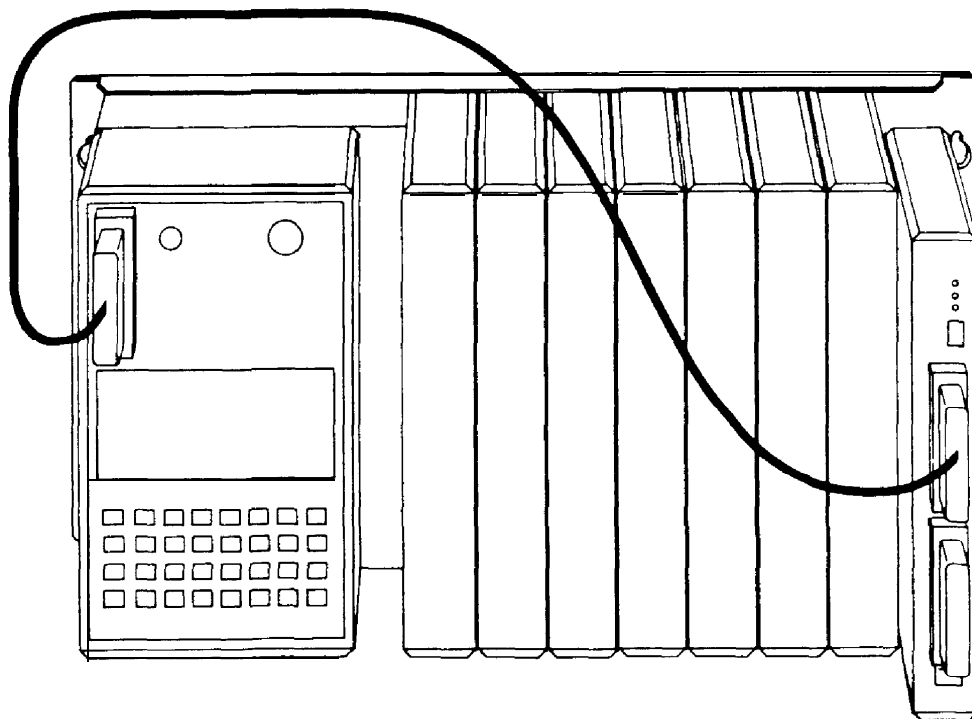

Figure 3.4 CONNECTING THE DCM TO THE CPU
4. With the Series Three power off, connect the DCM to the CPU using cable IC630CBL395A as shown in Figure 3.4.